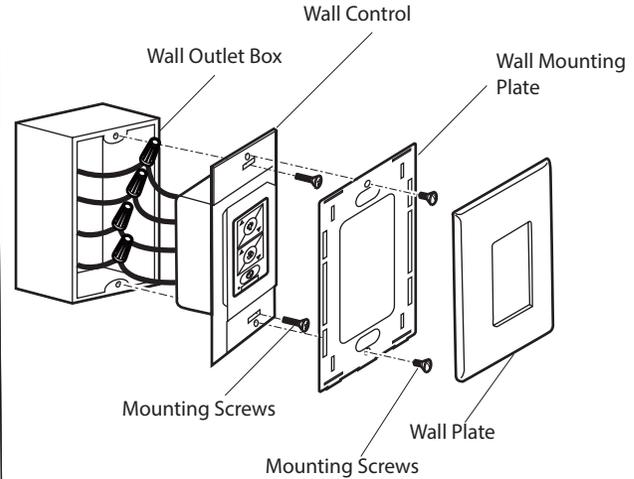

FIGURE 15
1. Carefully tuck the wire connections inside the junction box. Secure the wall control with the two wall control mounting screws provided. (Fig. 15)